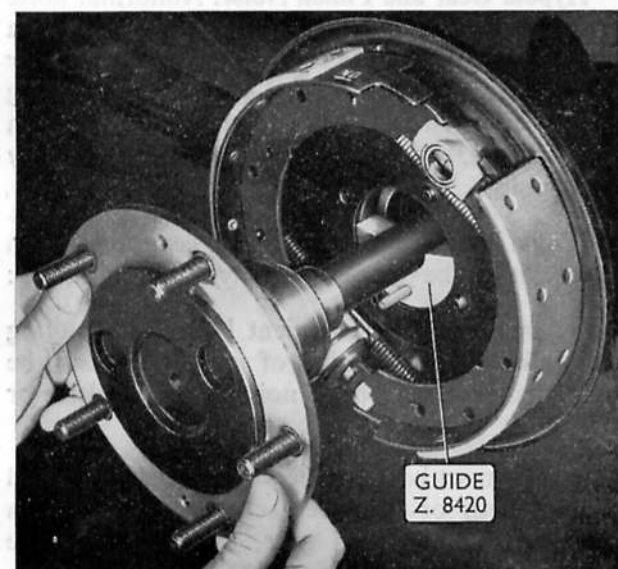

Fig. J.3. Removing an axle shaft
5. Withdraw the shaft sufficiently to insert an axle shaft guide (Fig. J.3), then complete the
3. It is essential that an axle shaft guide (Fig. J.3) is used when installing the axle shaft, otherwise the oil seal will be damaged and rendered unserviceable.